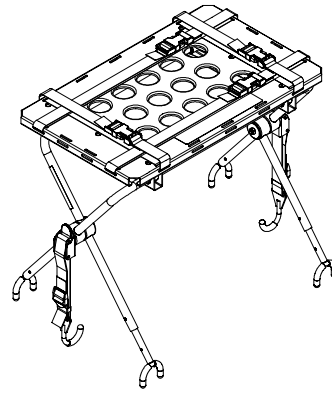

Figure 37
2. Open and expand the defibrillator platform legs as shown in Figure 37.